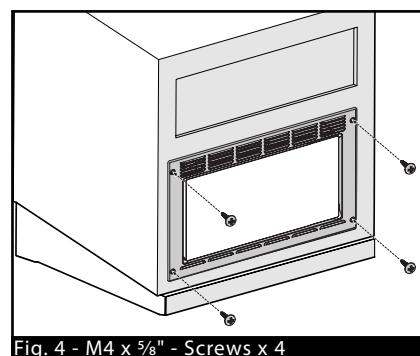

Fig. 4 - M4 x 5/8" - Screws x 4
5. Attach the microwave oven to the cabinet with 4 - M4 x 5/8" screws (Fig. 4).